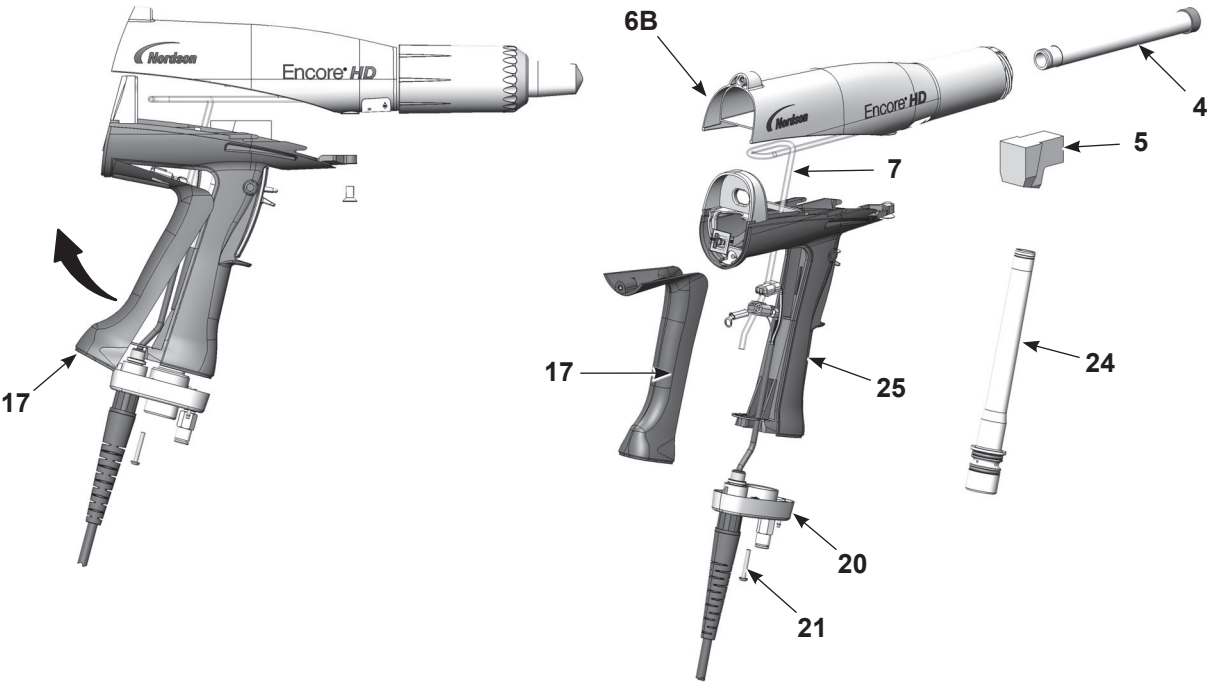

Figure 14 Powder Path Replacement
2. See Figure 14. Remove the elbow (5) from the inlet tube (24).
3. Remove the two M3 x 20 screws (21) from the handle base (20).
4. Pull the base away from the handle, then swing the bottom of the ground pad (17) up and away from the handle, then remove it. Leave the ground wire connected to the ground pad.
5. Push the inlet tube (24) up and out of the base, then move the base out of the way and pull the inlet tube out of the handle.
6. Push the outlet tube (4) out of the front of the gun body (6B).
1. See Figure 14. Install the outlet tube (4) into the gun body (6B), with the end of the tube flush with the end of the gun body.
2. Install the inlet tube (24) into the handle (25), then install the end of the tube into the handle base (20).
3. Push the handle base close to the handle, then hook the top end of the ground pad (17) into the body and rotate it onto the handle. Make sure the cable wires are not pinched or trapped during re-assembly.
4. Install the handle base onto the handle and ground pad and secure it with the two M3 x 20 screws (21).
5. Install the elbow (5) onto the inlet tube, with the end oriented toward the front of the gun as shown.